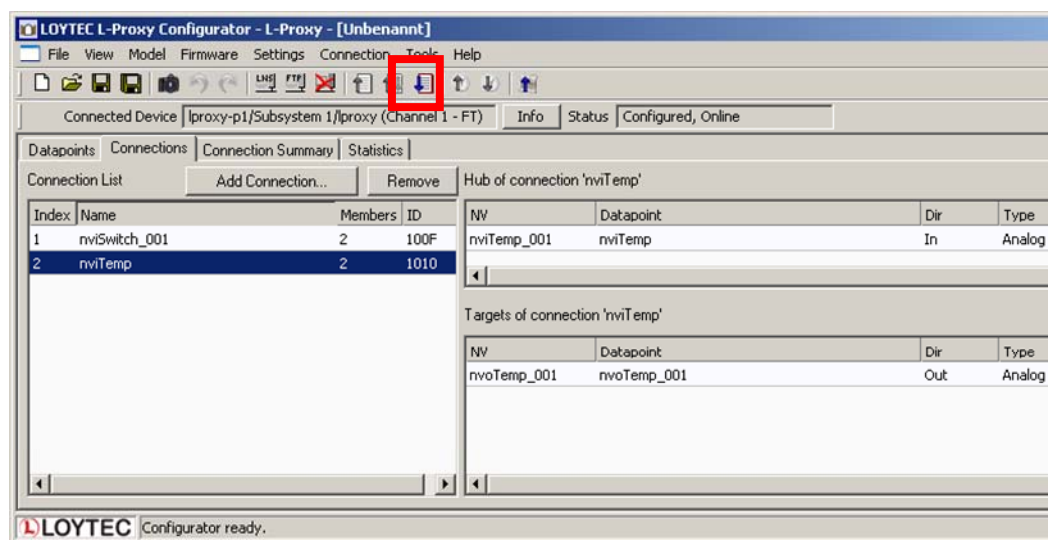

Figure 4: Generated connections.
- Click on the **Connections** tab and view the generated connections as shown in Figure 4.
- Click on the **Download Configuration** button in the tool bar as indicated by the red rectangle in Figure 4. This opens the configuration download dialog as shown in Figure 5.